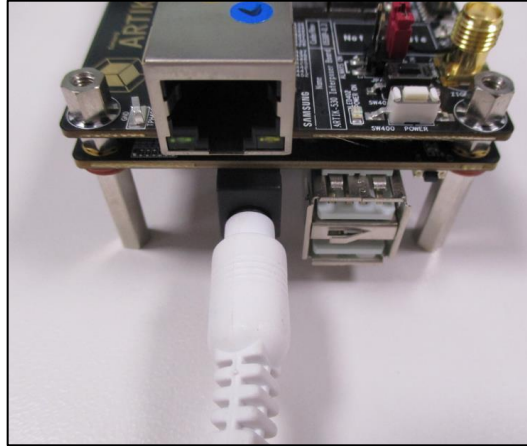

Figure 24 Connection Power adaptor with development Board
1. Connect Power adaptor and Platform board as depicted in Figure 24